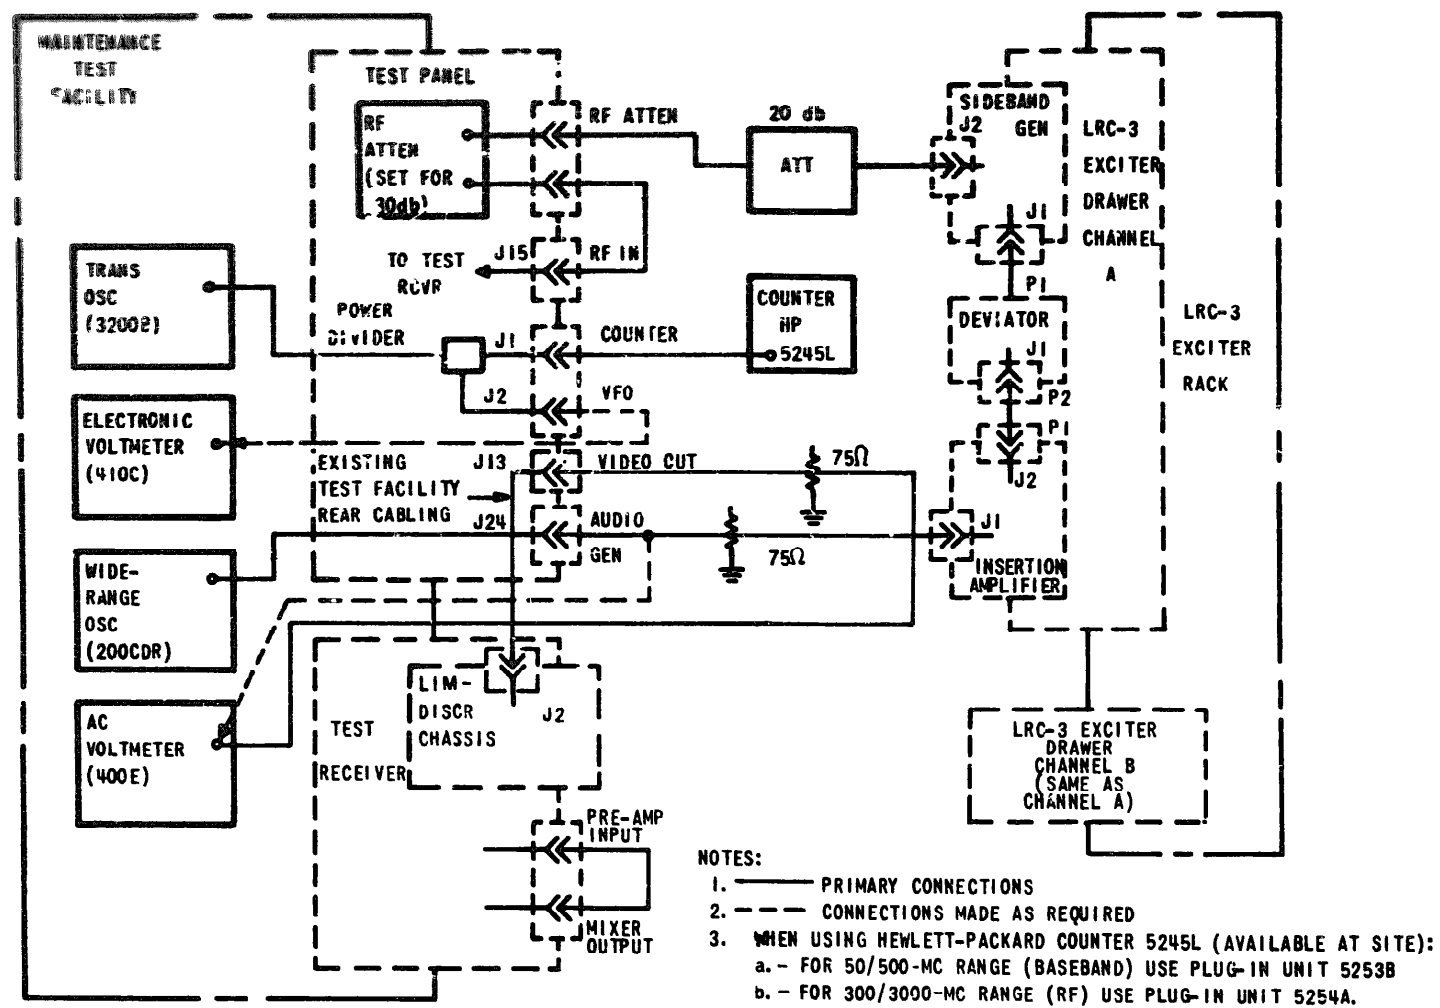

Figure 3-7. LRC-3 Exciter Frequency Response Test, Cable Connections
- b. Connect test cables between the LRC-3 exciter and the Maintenance Test Facility as shown in figure 3-7.